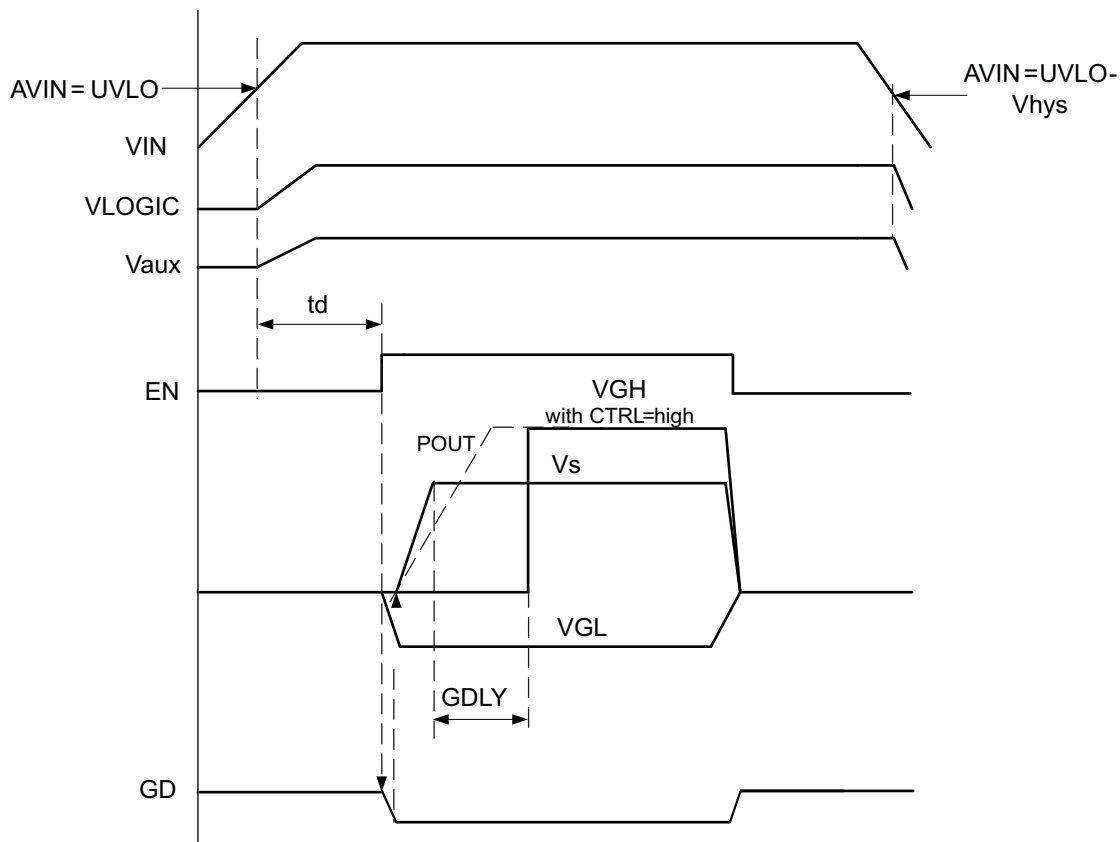

Figure 23. Power Up Sequencing
The device has an adjustable start-up sequencing to provide correct sequencing as required by LCD. When the input voltage exceeds the undervoltage lockout threshold, then the step-down converter and LDO controller start-up at the same time. As the enable signal (EN) goes high, the negative charge pump starts up followed by the boost converter Vs starting at the same time as the positive charge pump. See the typical curves shown in Figure 18, Figure 19, and Figure 23.
If no logic control signal is available, it is also possible to connect a capacitor to this pin to set the delay time t_d as shown in Figure 23 and Figure 19.